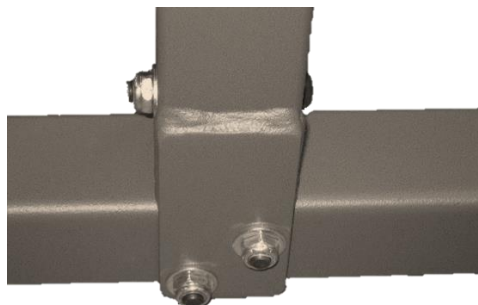

Figure 2: Base & Upright assembly step 2
2. Finish assembling the base and upright **by fastening the upright with the base cross- way**, using one (1) supplied 2-1/2" long bolt, two (2) washers and one (1) nylon nut, according to Figure 2 below.